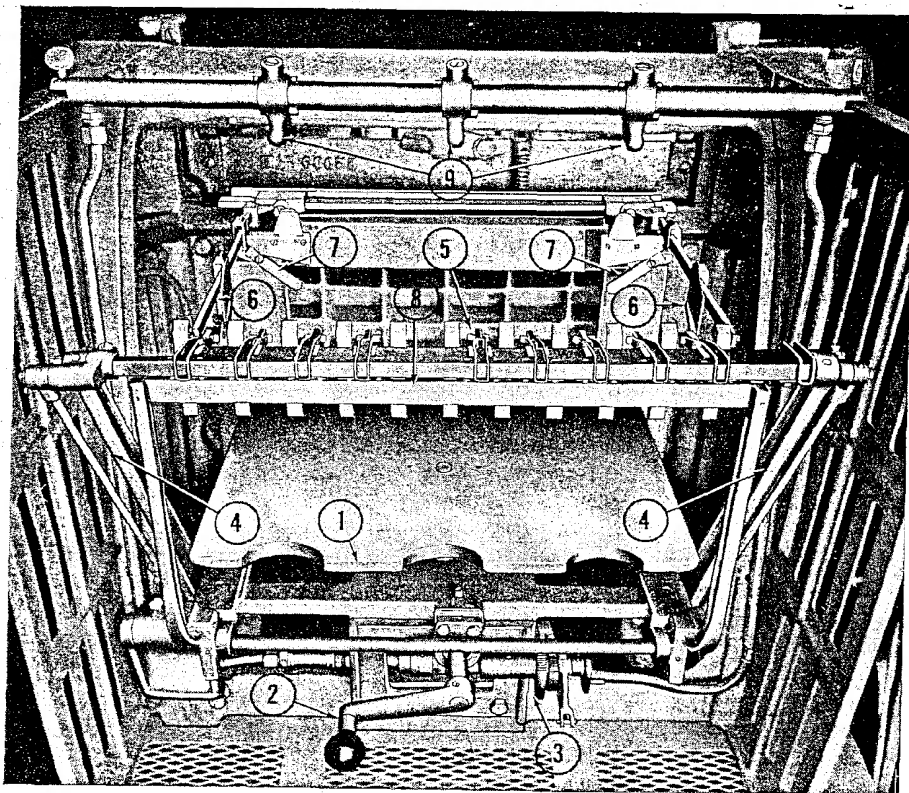

Figure 8—Delivery
f. **DELIVERY.** (See figure 8.) — The delivery mechanism includes the delivery table and its lowering mechanism, the delivery arms to which are attached the delivery grippers, the delivery stop finger bar and stop fingers, the jogger supporting bar with the side and rear joggers, and the delivery air blast tube and nozzles.